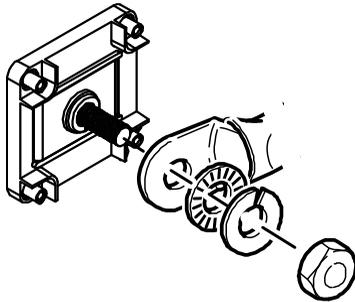

Figure 8 DC Cable Connections
Use only appropriately sized copper cable. Loose connections, improper connections, and under-rated cables will overheat. Make sure that the supplied bolts on the inverter/charger are tightened to a torque of 15–16 ft-lbs (20.4–21.7 Nm). Torque all other connections to the manufacturer's specifications. Make sure the DC cable, washers, and bolt are assembled in the order shown in Figure 8.
4. Connect one connector on the POSITIVE (+) cable to the POSITIVE DC terminal on the inverter/charger, as shown in Figure 8. The connector goes on first, then the flat washer (steel), lock washer (steel), and 3/8" bolt (brass).
6. Connect one connector on the NEGATIVE (-) cable to the NEGATIVE (-) DC terminal on the inverter/charger, as shown in Figure 8. The connector goes on first, then the flat washer (steel), lock washer (steel), and 3/8" bolt (brass).